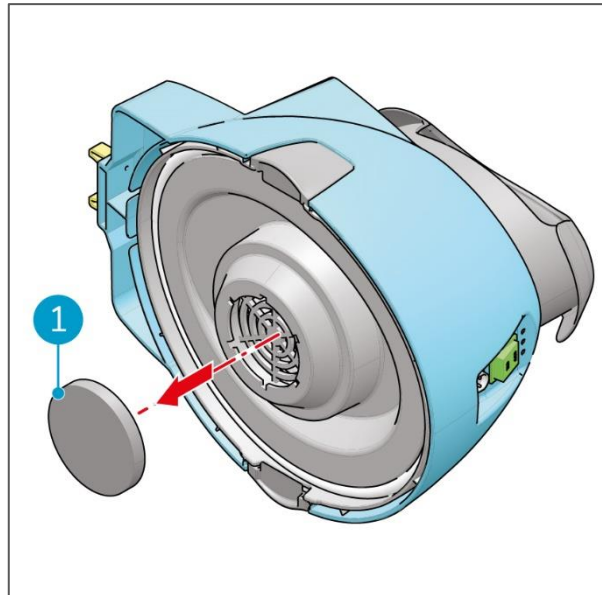

Figure 23
6. Remove the old motor filter (Figure 23, pos 1).
7. Place the new motor filter (Figure 23, pos 1).